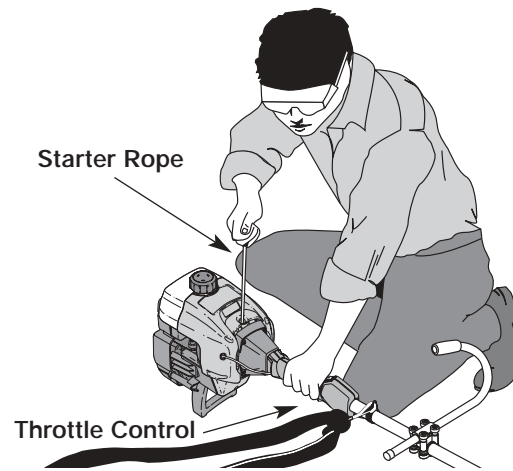

FIGURE 18
WARNING: Avoid accidental starting. Be in the starting position when pulling the starter rope, Figure 18. The operator and unit must be in a stable position while starting to avoid serious personal injury.
5. With the unit in the starting position, squeeze and hold the throttle control to the wide open (full throttle) position and pull the starter rope briskly 5 times in the **FULL choke (A)** |←| position, Figure 18. If the engine attempts to run before the fifth pull, proceed to step 6.
7. Pull starter rope briskly 1 to 3 times to start the engine, Figure 18.
1. Release your hand from the throttle control, Figure 18. Allow the engine to cool down by idling.